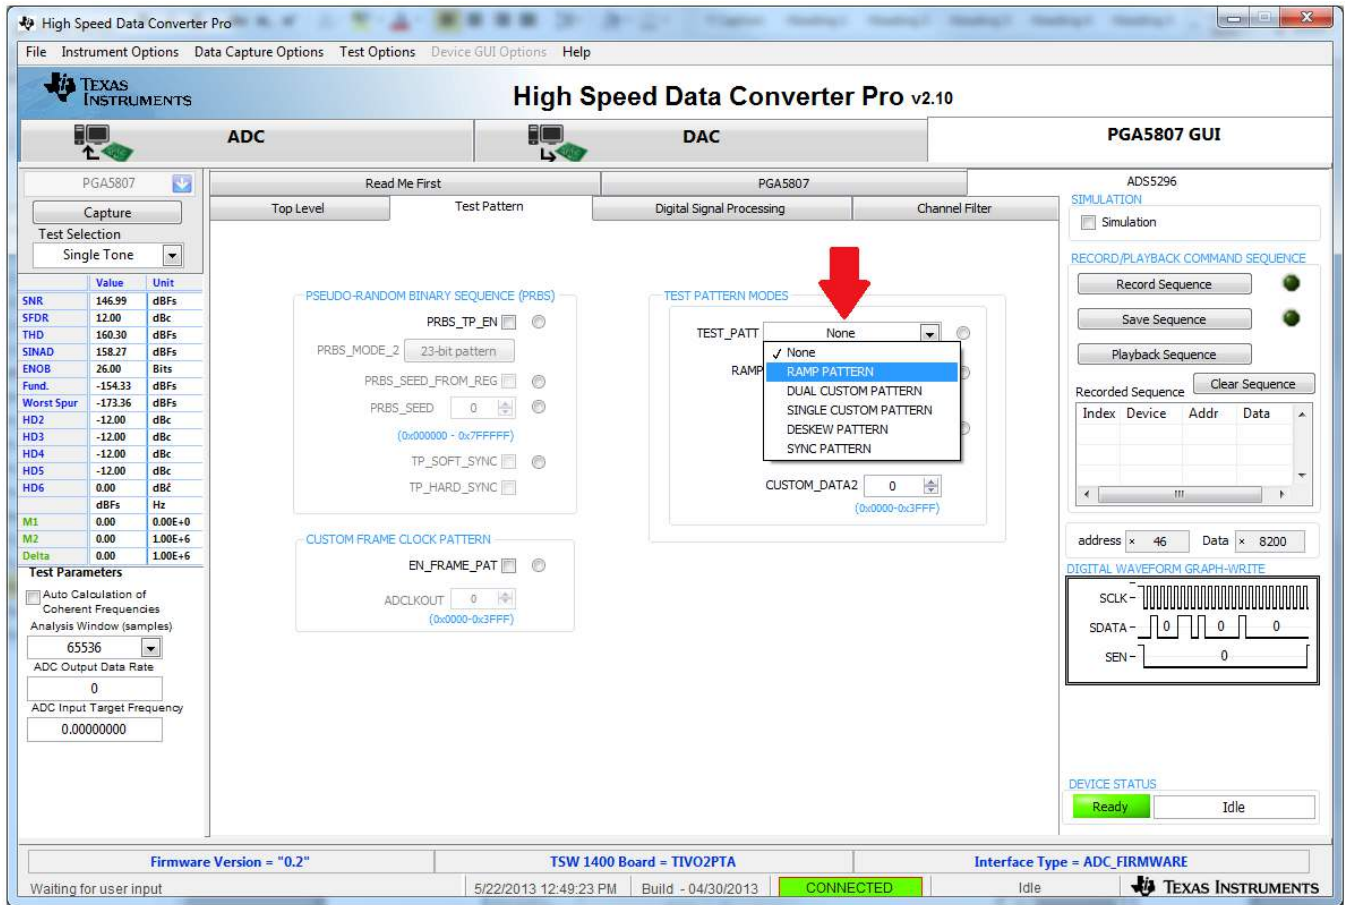

Figure 32. ADS5296 Setup for RAMP Test
- Within the ADS5296 tab, press on the sub-tab labeled *Test Pattern* and select **RAMP PATTERN** within the **TEST\_PATT** menu as shown in Figure 32.